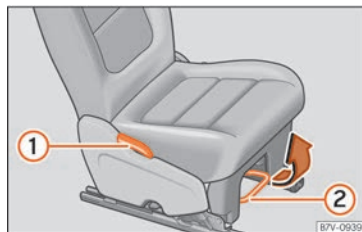

Fig. 130 Adjusting rear seats
- Pull the lever and adjust the seat backrest to the desired position » Fig. 130 ① » ⓘ. The seat backrest must be engaged when the lever is released!